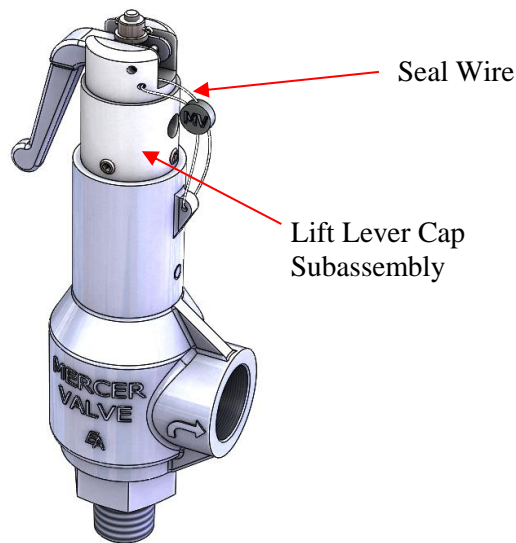

Figure 23: 8100 Series with a Lift Lever
1. Cut and remove the seal wire. See Figure 23.